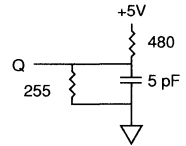

Fig. 2 OUTPUT LOAD EQUIVALENT
- t_{HZCE}, t_{HZOE} and t_{HZWE} are specified with CL = 5pF as in Fig. 2. Transition is measured ± 500mV from steady state voltage.